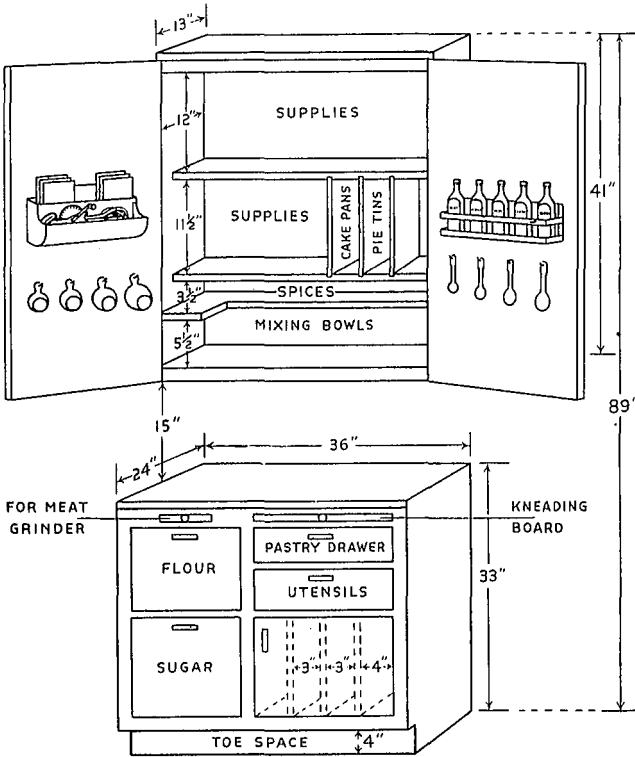

FIG. 1. Mixing center
**At the Mixing Center.** It is at this center that bread, cakes, pies, casserole dishes, and other foods are prepared. Therefore, suitable storage should be provided for such food materials as flour, sugar, baking powder, flour, soda, spices, and extracts (figure 1).
16) and vertical partitions in cupboards reduce storage requirements of covers, baking tins, platters, and trays (see figures 1 and 9).